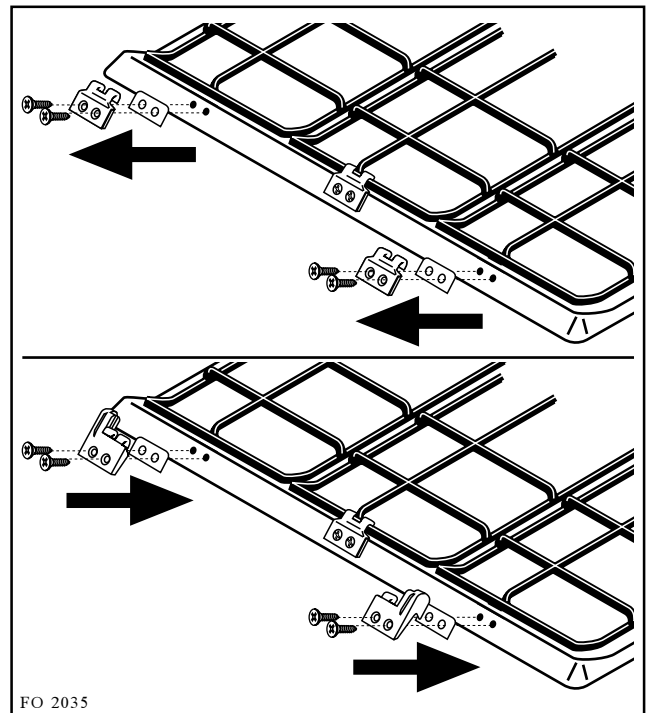

Fig. 11
- a. Remove the right and left hand grid blocks fitted to the back of the hob, by unscrewing the relevant screws (fig. 11)